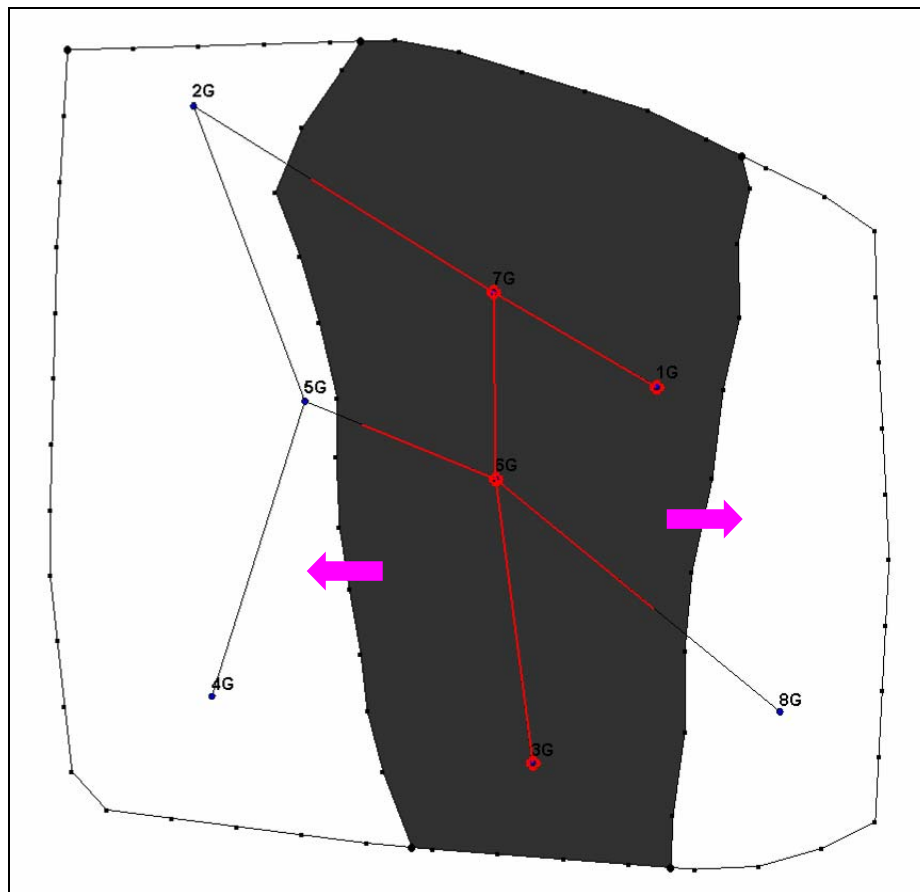

Figure 5.4. Polygons to be deleted.
2. Delete the two polygons on the left and right of the model identified by the arrows in Figure 5.4 (click inside each polygon to select it and hit the delete key).